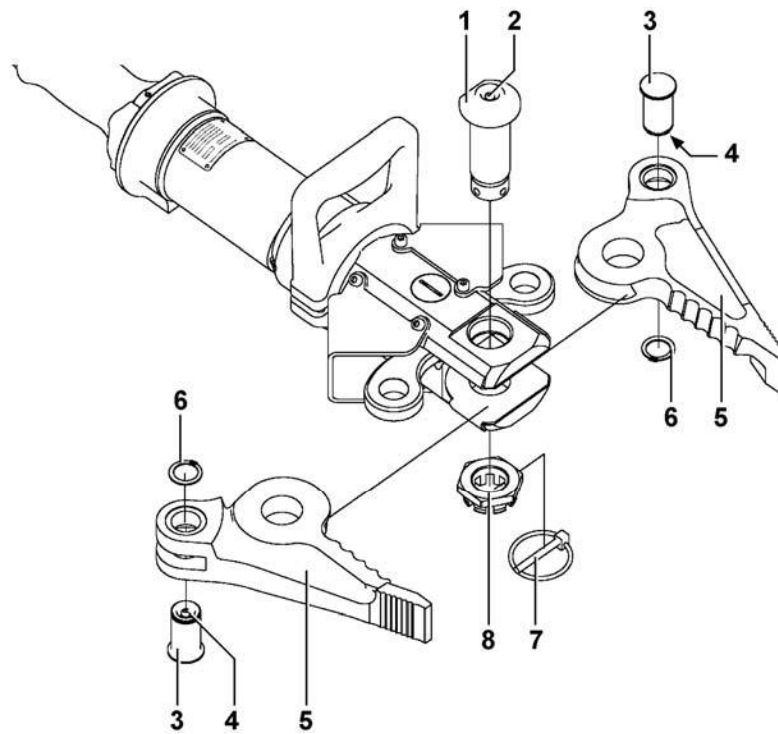

Fig. 5-3 Changing tools
- Screw the two covers (2) back into position.
- Install the concrete jaw kit in the opposite order to that used to dismantle the shears kit, for example (→ Fig. 5-3).